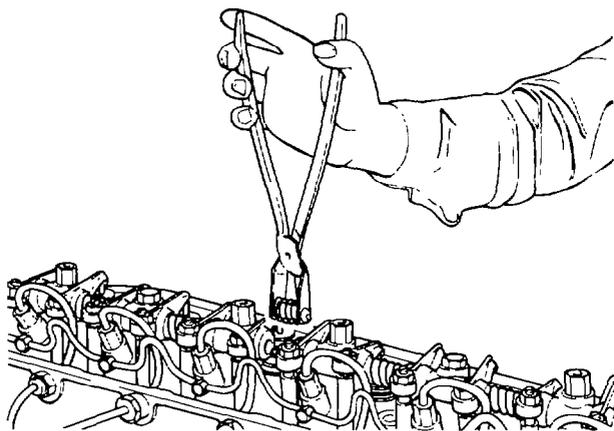

Figure 4 Compressing the Nipple Assembly
- b. Use Special Tool No. 1 (see Fig 4) to compress the nipple assembly until it can be removed from between the rocker shafts; take careful note of the position of the two nipples on the assembly for installation purposes. Remove the nipple assembly from between the rocker shafts (see Fig 5).